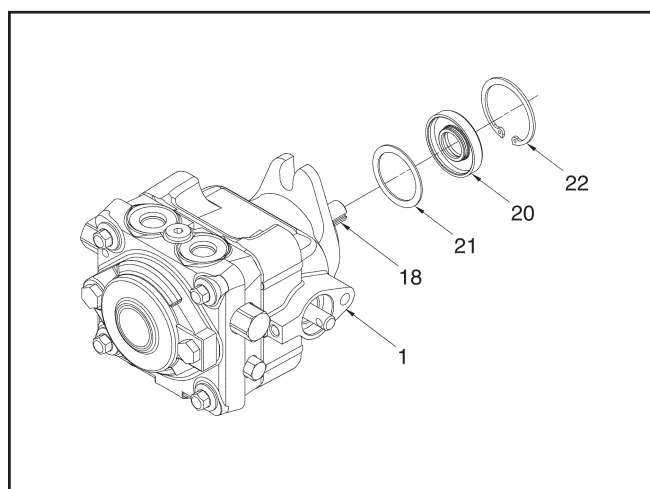

Figure 4. PC Pump Input Shaft Seal
Refer to Figure 4.
1. Lubricate the new lip seal (20) inside diameter with petroleum jelly.
2. Wrap the input shaft (18) with plastic wrap to prevent damage to the inner surface of the lip seal (20).
3. Slide spacer (21) and seal (20) over shaft (18) so that lettering on the seal faces out.
4. Press the lip seal (20) into the housing bore. Insure the lip seal (20), shaft (18) or housing (1) bore do not become damaged. Remove the plastic wrap.
5. Install the retaining ring (22) into the housing (1) bore groove. Refer to Figure 4.